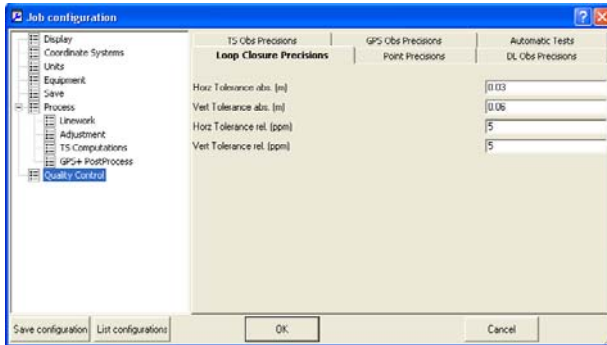

Figure 2-41. Job Configuration – Loop Closures Tab
- The *Loop Closure Precisions* tab sets the horizontal and vertical tolerances for loop closures (Figure 2-41).